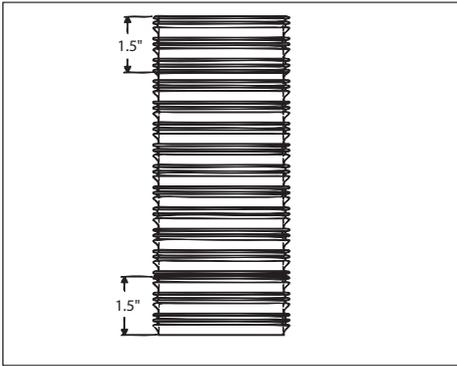

Figure 12
2. Make 4 marks on both ends of liner 90° apart 1 1/2" from each end as shown in **Figure 12**. These marks will act as the reference point for when the adapters are fully seated onto the flex liner.